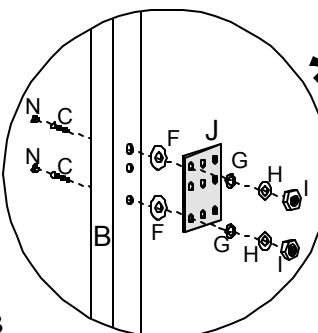

FIGURE 3
Attach Adapter Plate (J) to each Headboard Post (B), using 2 Long Allen Bolts (C), 2 Rubber Washers (F), 2 Large Metal Washers (G), 2 Spring Washers (H) & 2 Hex Nuts (I) per each side. Tighten all bolts. Insert Wood Plugs (N) to cover bolt heads. See Figure 3.